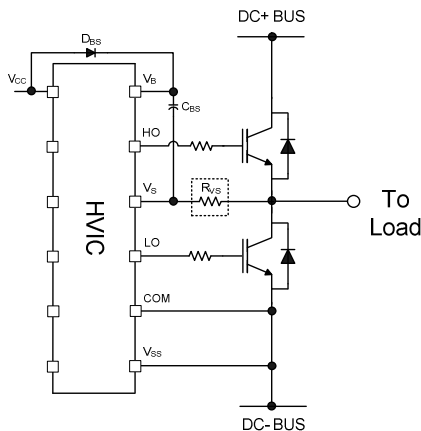
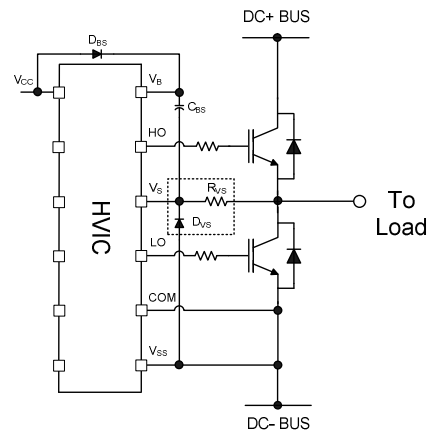

Figure 18:  $V_S$  resistor
Figure 19:  $V_S$  clamping diode
**Routing and Placement:** Power stage PCB parasitic elements can contribute to large negative voltage transients at the switch node; it is recommended to limit the phase voltage negative transients. In order to avoid such conditions, it is recommended to 1) minimize the high-side emitter to low-side collector distance, and 2) minimize the low-side emitter to negative bus rail stray inductance. However, where negative  $V_S$  spikes remain excessive, further steps may be taken to reduce the spike. This includes placing a resistor (5  $\Omega$  or less) between the  $V_S$  pin and the switch node (see Figure 18), and in some cases using a clamping diode between COM and  $V_S$  (see Figure 19). See DT04-4 at [www.irf.com](http://www.irf.com) for more detailed information.